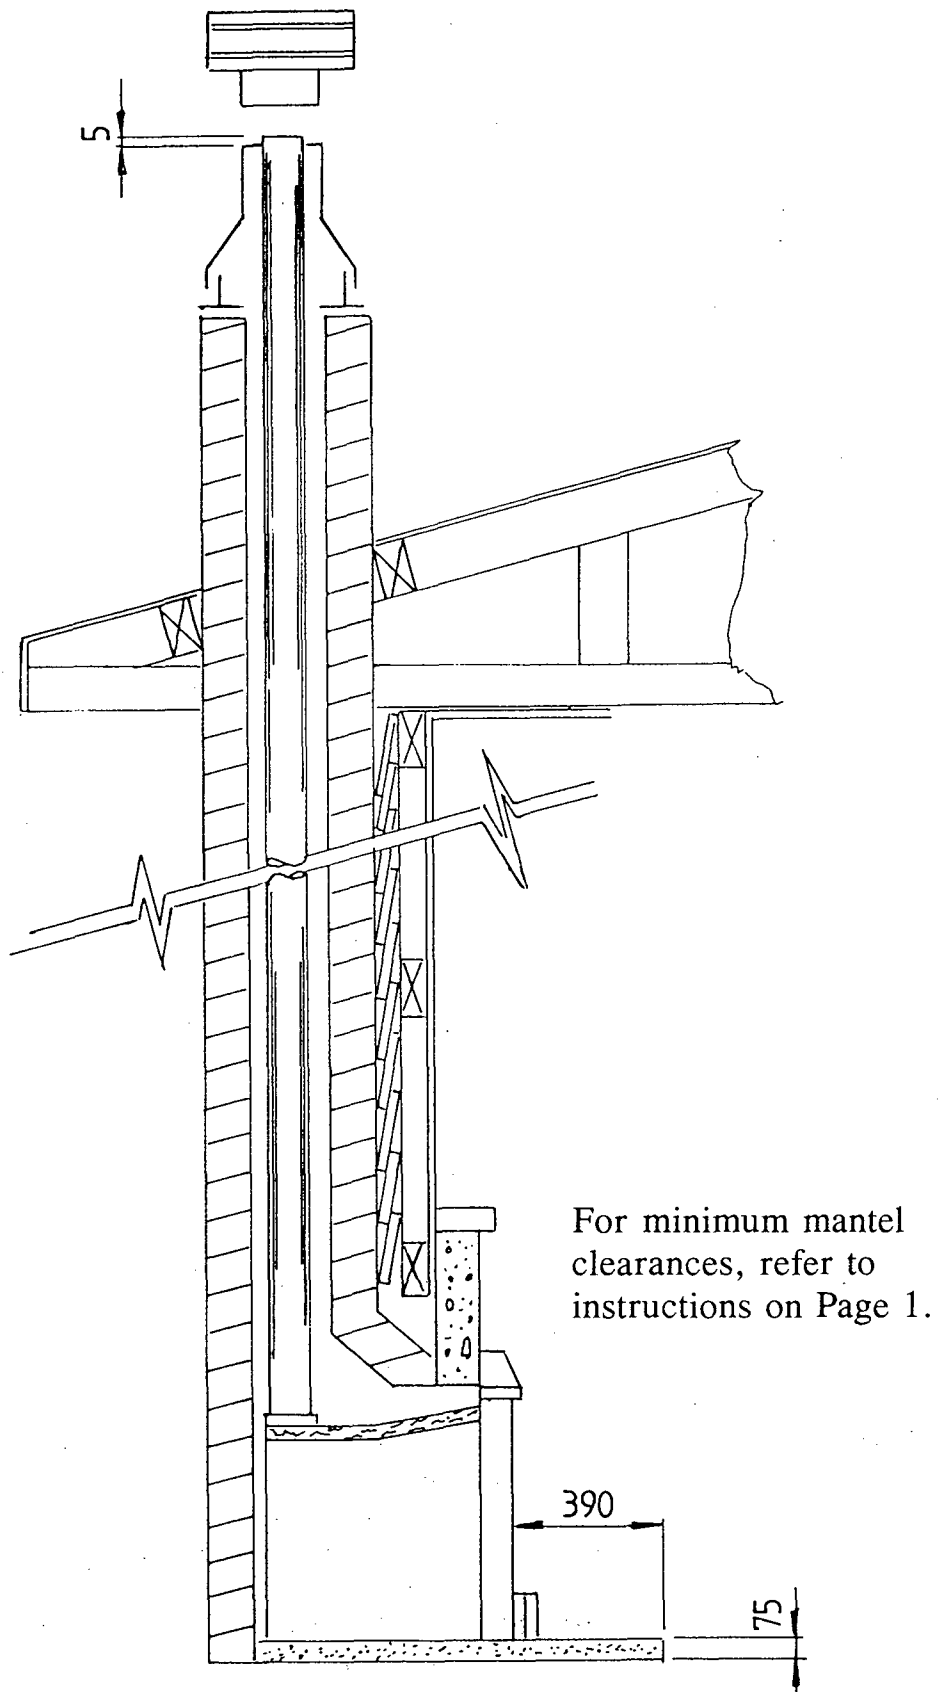

Figure No. 1
- 2. Weather cowl must be screwed to flue, after trimming to correct length. Flue must not project more than 5 mm above cowl. See Figure No. 1.